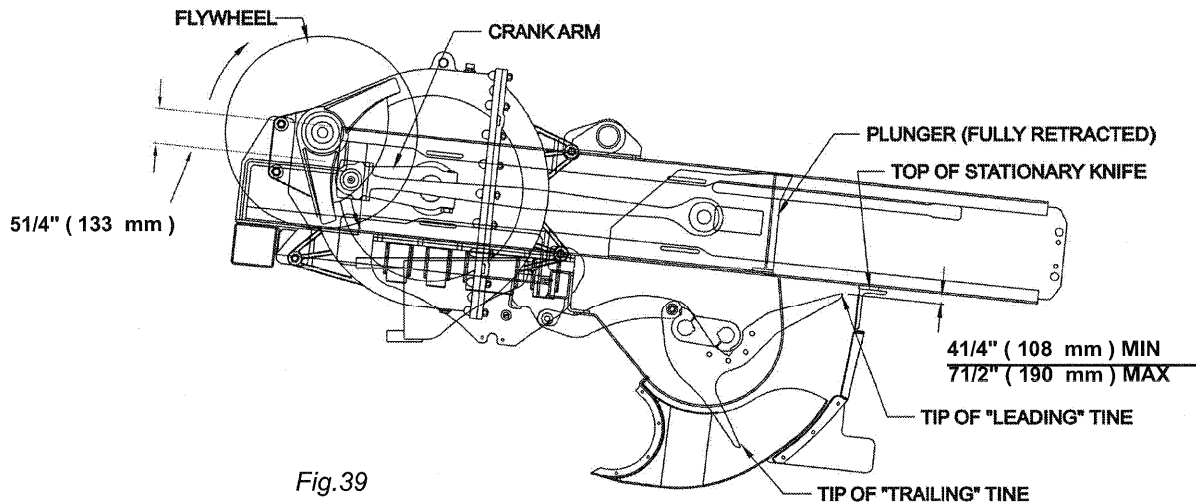

Fig.39
E. Once the feeder timing is correct. Re-Tension the feeder drive chain by tightening the nut (B) on the chain tension adjusting rod. See Fig. 41. With the feeder in the position shown in Fig 39. Tighten the tensioner until there is about 1" of free chain movement at the center of the span between the drive sprocket and idler. After tensioning the feeder chain, tighten the chain idler mount bolts (A).